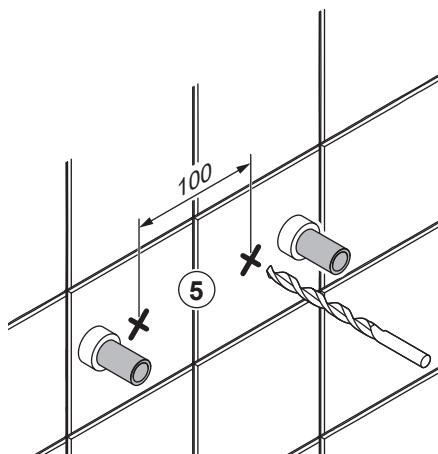

Fig. 1
Alla infästningar med skruv genom tätskikt ska tätas, se "Fig. 1" eller "Fig. 2". Material för tätnings ska fästa mot underlaget och vara vattenbeständig, mögelresistent och åldersbeständigt.
- The screw mountings where the bath or shower will be installed should be of a sturdy design, for instance made of concrete, wooden studs, wooden nogging pieces or a design that has been tested and approved for mounting. If mountings are fitted with screws through the moisture barrier, the holes must be sealed. See "Fig. 1" or "Fig. 2". The sealant material must attach firmly to the underlying surface and be water-resistant, mould-resistant and non-ageing.